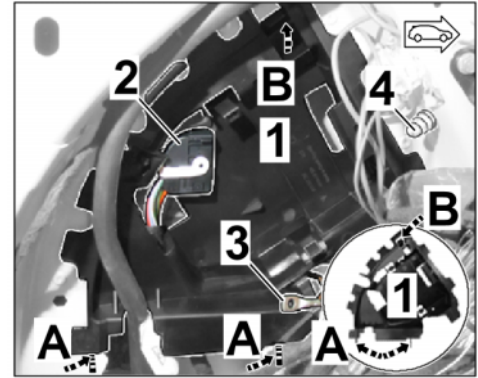

Figure 11
- 2.4 Install trailer hitch control unit in the luggage compartment area (left side panel). ⇒ *Figure 11*
- 2.4.2 Insert pins (2 x on underside of control unit bracket) into the body. ⇒ *Figure 11-A-*
- 2.4.3 Clip trailer hitch control unit bracket at the top into the web plate on the body. ⇒ *Figure 11-B-*